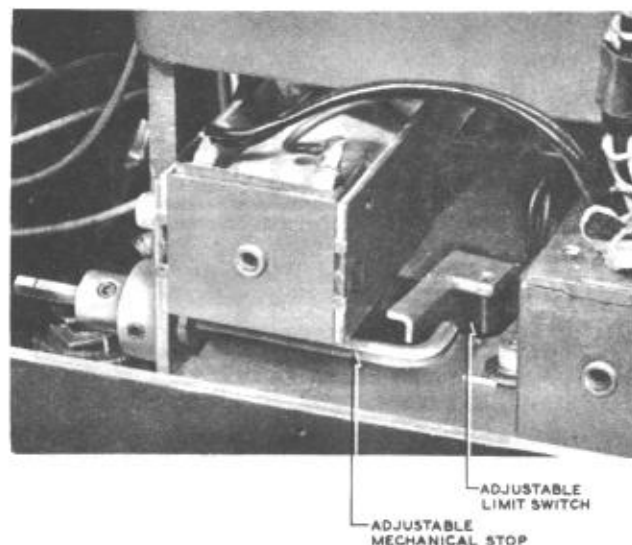

Fig. 12 — Adjustable Mechanical Stop and Adjustable Limit Switch
2. Move the adjustable mechanical stop until the desired time marking is at the tube entrance. Do not permit the adjustable mechanical stop to rotate as it is being moved to its new position. If it rotates it will not engage the adjustable limit switch (see Fig. 12).